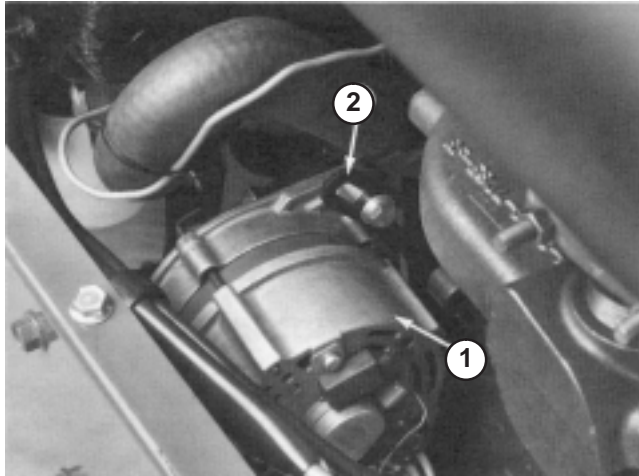

Figure 30
A new alternator belt (Fig. 30) is to be tensioned to 65 lbs. A used belt is to be tensioned to 40 lbs.
1. To adjust belt tension, loosen bolt securing brace to engine, bolt securing alternator to brace and alternator mounting bolt (Fig. 30).
2. Insert pry bar between alternator and engine and pry out on alternator (Fig. 30).